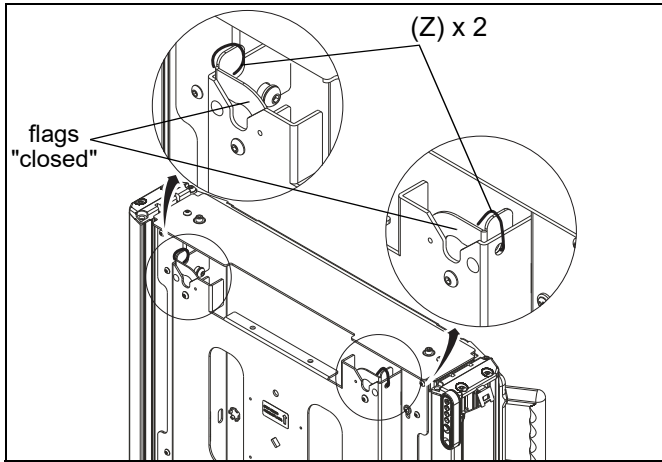

Figure 20
17. Install display with attached universal interface and move flags to "closed" position to secure display to mount. (See Figure 20)
IMPORTANT ! : Manufacturer recommends using cable ties (Z) to secure the latching flags in closed position on both sides if padlock is not being used. (See Figure 20)